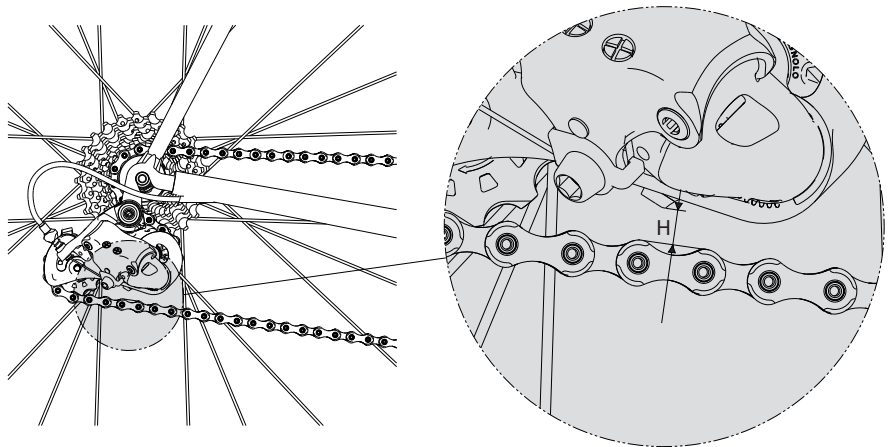

Fig.2
• Determine the correct length of the chain positioning it on the sprocket and the smallest chainering and ensuring that the measurement H (Fig. 2), the distance between the bottom part of the rocker and the upper part of the chain, is about circa 10 - 15 mm.